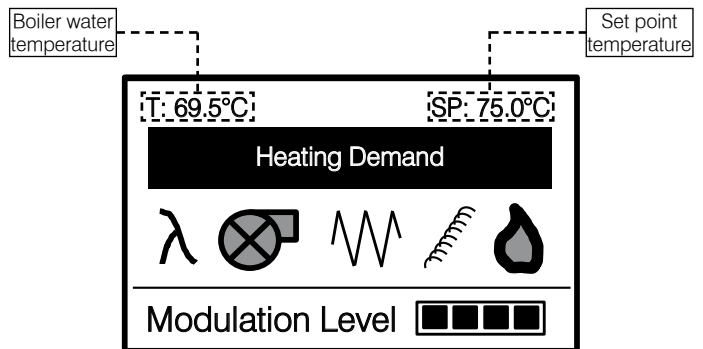

Figure 6: Control panel LCD screen
The 'Setpoint' temperature (SP) is constantly displayed in the top right corner of the control panel LCD screen. Refer to Figure 6.
The 'Setpoint' temperature is set by the Installer during commissioning, using buttons 5 and 6, within the range 55°C to 75°C. Refer to Figure 6. Typically it will be set to 70-75°C. This is the 'target' temperature setting about which the modulation of the boiler output will operate.
The 'Setpoint' temperature is **NOT** the temperature at which the burner stops. The maximum boiler temperature at which the burner will cut out is factory set in the boiler control settings. This can, if required, be adjusted by the Installer or Grant Service Engineer. Refer to Figure 6.
The boiler water temperature (T) is constantly displayed in the top left corner of the control panel LCD screen. Refer to Figure 6. This is the actual temperature of the water in the boiler at that point in time.